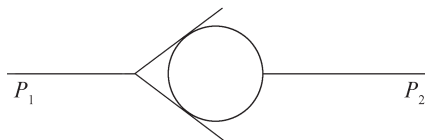

Fig.5-14 Symbol of Non-return Valve
**Non-return valves** are used in circuits, or combined in the body of other valves, to provide flow in one direction only. The simplest type is the spring-loaded ball valve. Its symbol is shown in Fig.5-14.